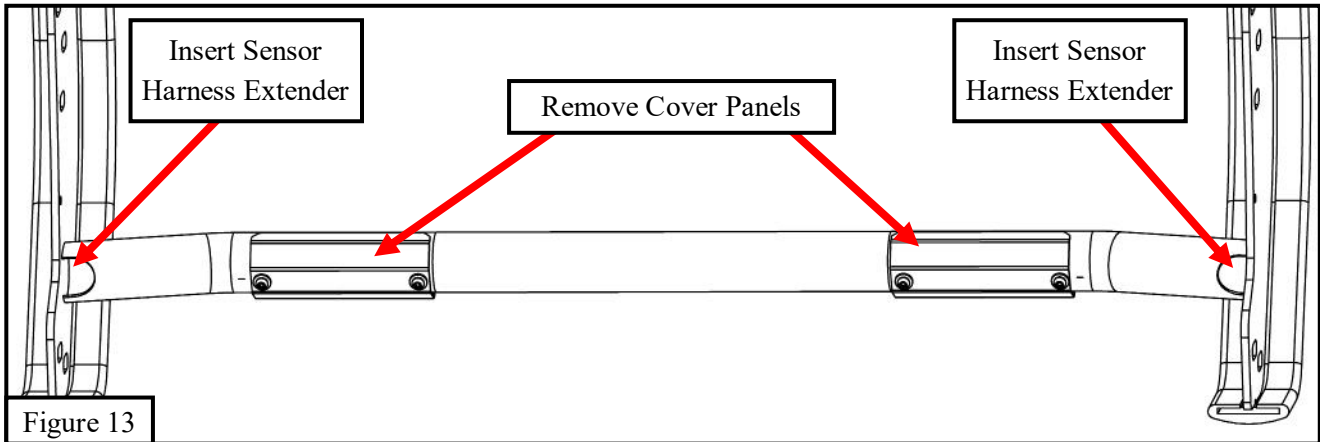
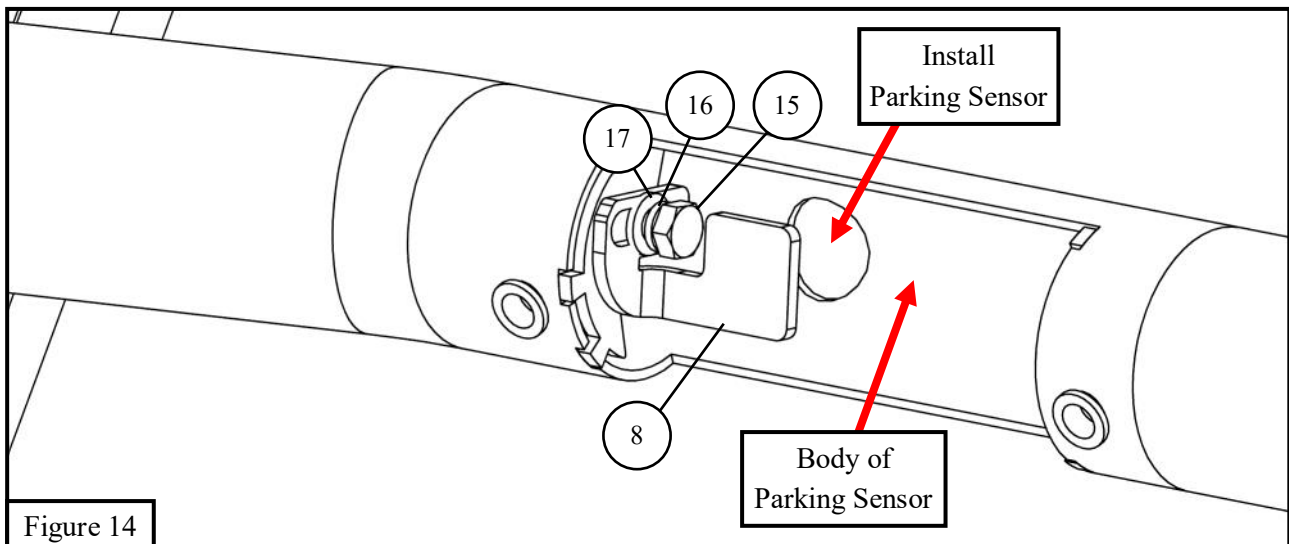

Figure 13
Figure 14
23. Remove the (2) center parking sensors from the front bumper.
24. Remove the cover panels and rubber hole plugs from the grille guard lower tube. See **Figure 13**.
25. Insert (1) sensor harness extender (**item 7**) into the lower grille guard tube. Place one end of the harness extender in the space behind the cover panel. See **Figure 13**.
26. Place (1) piece of double sided tape (**item 25**) on the back of each parking sensor.
27. Install the parking sensors using the M6 hardware (**items 15-17**) and the sensor L-brackets (**items 8 and 9**). See **Figure 14**.